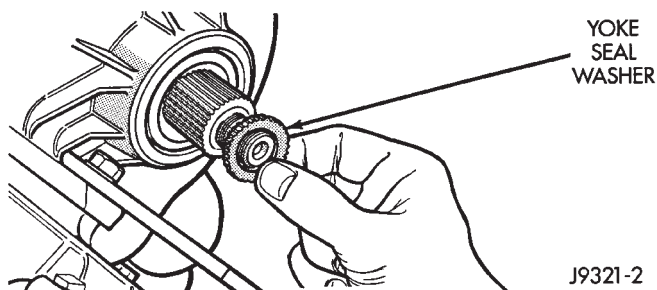

Fig. 97 Installing Yoke Seal Washer
(3) Install new seal washer on front output shaft (Fig. 97).